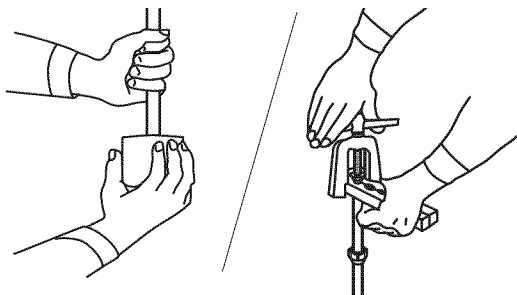

Fig. 26 - Removing Burrs
- c. make the flares to the pipe ends with the proper flaring tool. The flare end must not have any burrs or imperfections. the flared walls must be uniform. See Fig. 26 and Fig. 27.